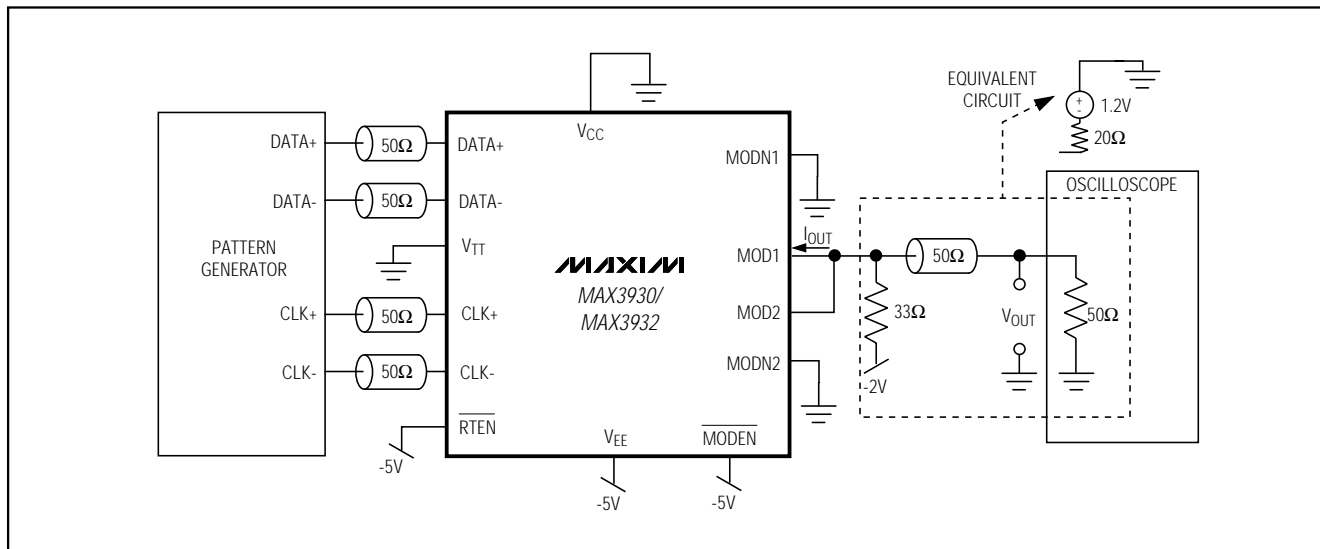

図1. 試験回路
**Note 3:** Guaranteed by design and characterization using the circuit shown in Figure 1.